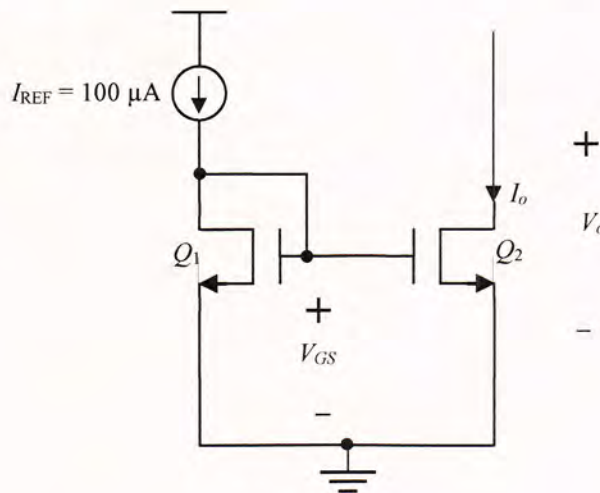

Fig. 1
With a reference to Fig. 1, the current flowing through Q_1 , which is diode connected and hence saturated, results in V_{GS} appearing across Q_2 . Providing $V_0 \geq V_{GS} - V_t$, the same current would also flow through Q_2 , if Q_2 is matched with Q_1 in terms of aspect ratio (W/L).
- (b) The circuit shown in Figure 1 is an integrated MOS current mirror. The transistors in the circuit have the following parameters: $(W/L)_{Q1} = 50\mu\text{m}/5\mu\text{m}$, $|V_{A2}| = |V_{A1}| = 200\text{ V}$, $V_t = 1\text{ V}$, and $\mu_n \cdot C_{ox} = 20\ \mu\text{A} \cdot \text{V}^{-2}$. Assuming that there are no channel length modulation effects,